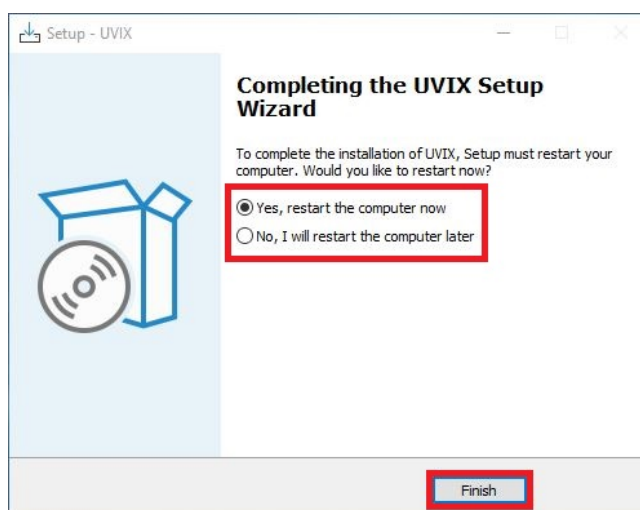

Figure 4.9: Restart options
9. Select whether you want to restart your PC immediately or at a later time and click "Finish," as shown in Figure 4.9.